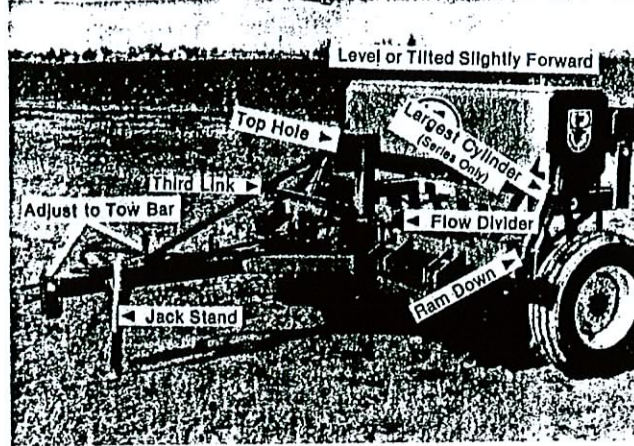

Figure A-3
When unit is attached to tractor drawbar, the top of the hopper should be level or tilted slightly forward. There are two attaching positions of the third link onto the tongue; additional adjustments can be made with the tractor drawbar or third link adjustment. See Figure A-3.
11. Attach hydraulic cylinders (ram end down) to the cylinder ear on lift wheel arm. Attach opposite end of hydraulic cylinder to cylinder ear on frame. See Figure A-3. Be sure retaining pins are properly replaced in cylinder pins to prevent their coming out. **Important!** See Figure 4 to determine large cylinder and small cylinder.